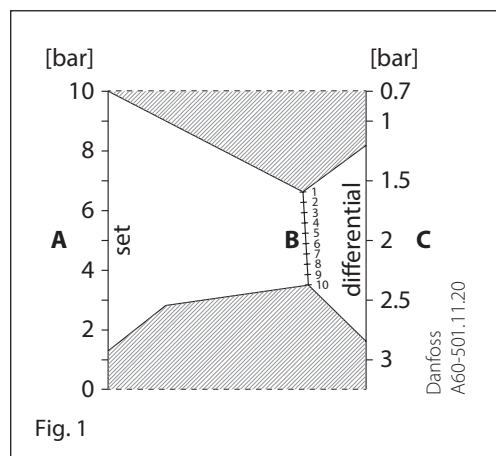

Fig. 1
When the pressure switch cover is removed, and the locking screw (5) is loosened, the range can be set with the spindle (1) while at the same time the scale (2) is being read. In units having an adjustable differential, the spindle (3) must be used to make the adjustment. The differential obtained can be read direct on the scale (4) or, with types KPS 43, KPS 45, KPS 47, can be determined by reading the scale value and using the nomograms in figs. 1, 2, 3 (page 5). The working line for determining the differential must not intersect the shaded areas in the nomograms.